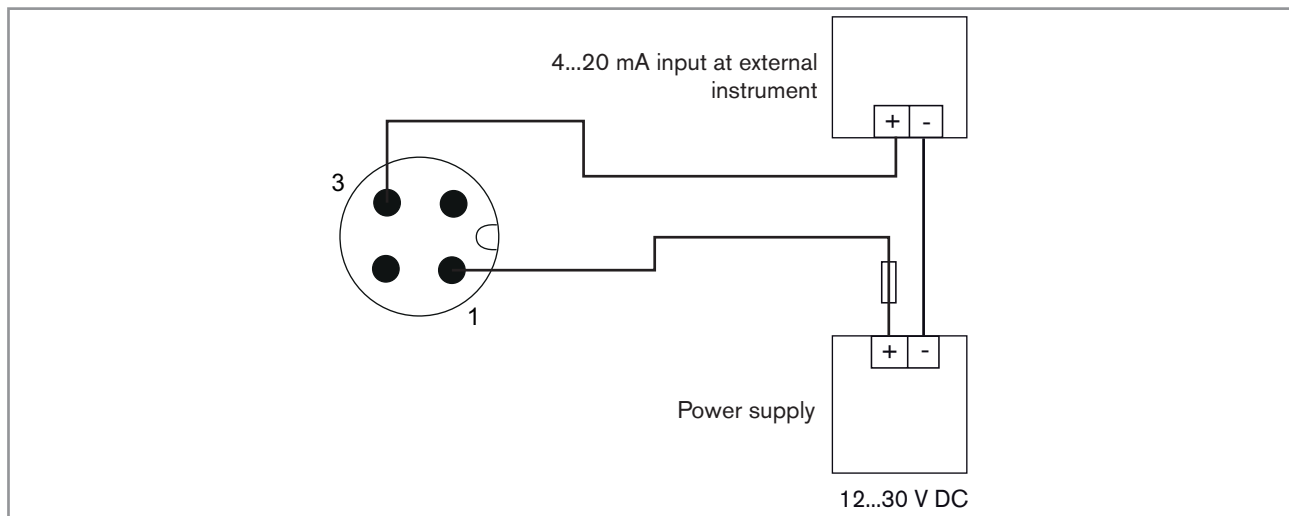

Fig. 7: Device with 4-pin M12 male connector – Connection of the current output
- Connect the 4...20 mA current output. Refer to Fig. 7.